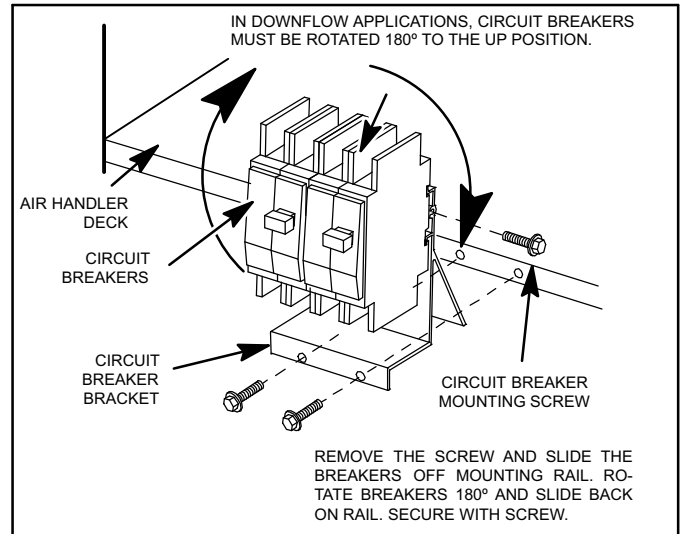

Figure 3. Electric Heat Section with Circuit Breakers
1. Install the circuit breaker on the air handler deck flange. Use the provided six screws to secure the circuit breaker (see figure 3).
NOTE - When applied in the down flow position, **the circuit breakers must be rotated to the UP position.** See figure 3 and follow the procedure below: